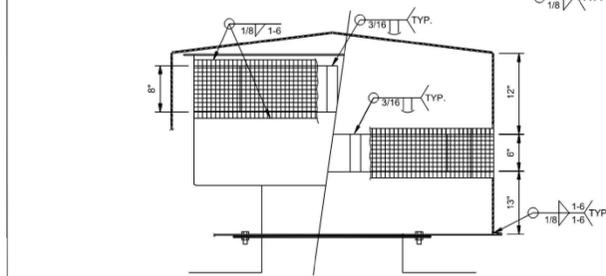

FIGURE 6
- (6) ALUMINUM BAR 2 IN. X 3/16 IN. X 8 IN. LONG (REFER TO FIG. 6)